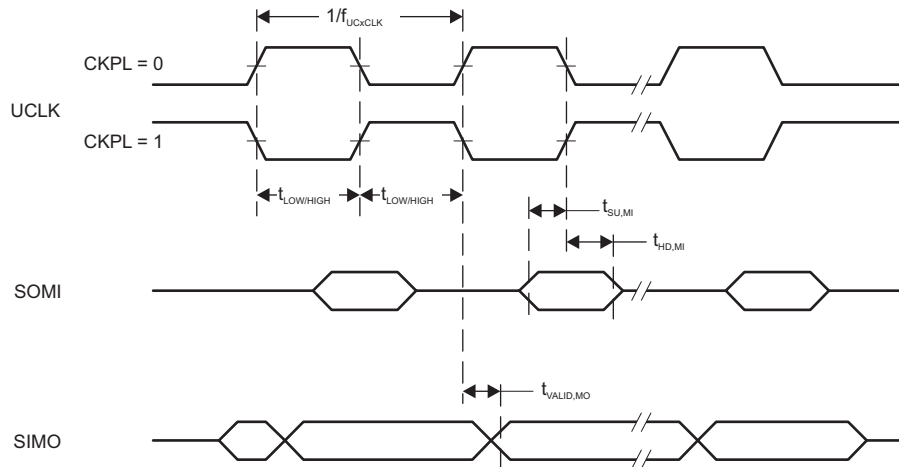
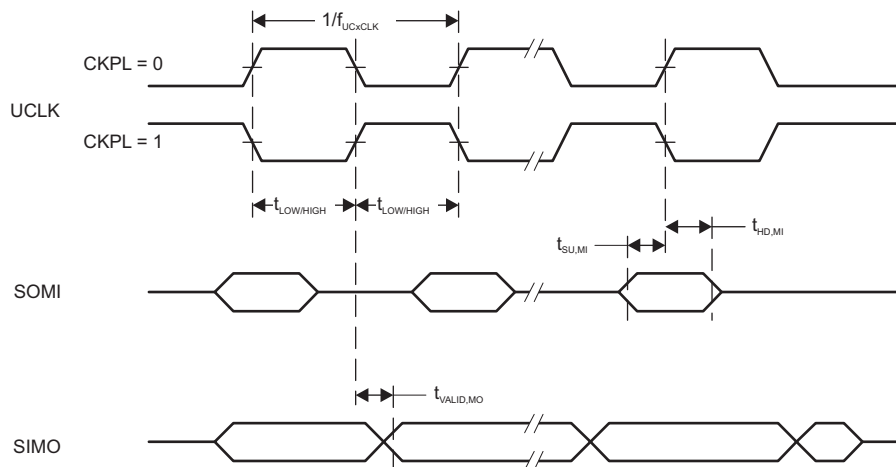

Figure 5-10. SPI Master Mode, CKPH = 0
Figure 5-11. SPI Master Mode, CKPH = 1
- Specifies the time to drive the next valid data to the SIMO output after the output changing UCLK clock edge. See the timing diagrams in Figure 5-10 and Figure 5-11.
- Specifies how long data on the SIMO output is valid after the output changing UCLK clock edge. Negative values indicate that the data on the SIMO output can become invalid before the output changing clock edge observed on UCLK. See the timing diagrams in Figure 5-10 and Figure 5-11.